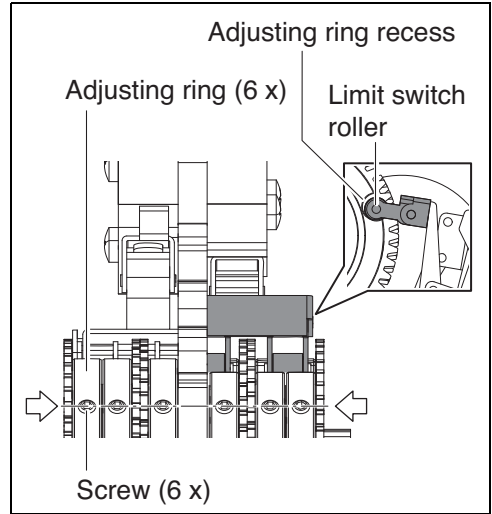

Fig. 11
- ▶ Make sure the 6 screws on the adjusting rings are loose and the limit switch rollers are positioned in the recesses of the adjusting rings. The limit switch rollers must not be tilted. The 6 screws must be in a line. This corresponds to the delivery state, see also Fig. 11.